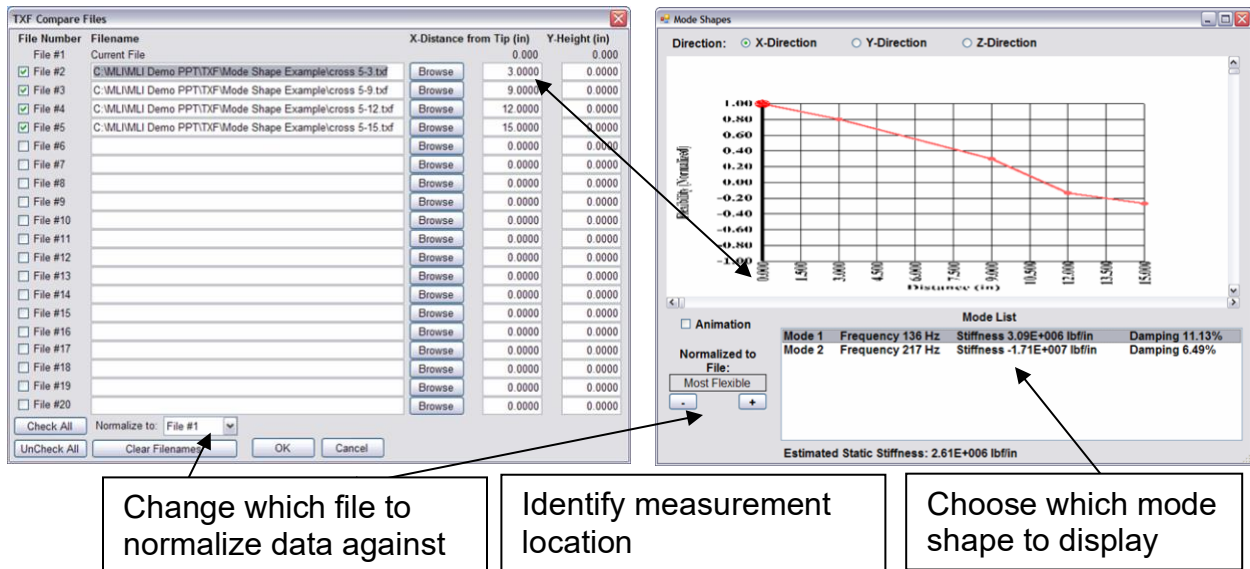
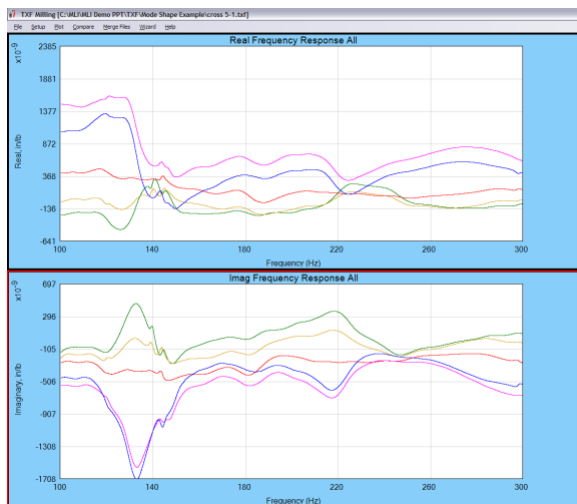

Figure 54: 3D Mode Shapes
Figure 55: Compare – Real/Imaginary – All, showing 5 measurements for Mode shape generation
The example shown in Figure 54 shows a 2D shaft mode where a set of measurements was made along a tool at distances 3", 9", 12", and 15" from the tool tip. The master file should be the direct measurement at the tool tip. The impact was made in the X direction. As seen Figure 55 in there are two dominant frequencies and therefore two mode shapes generated and displayed in Figure 54.
- Choose Compare – Real/Imaginary – All to view all the measurement files in one plot, as show in Figure 55.
- Choose Compare – 3D mode shapes to see the mode shapes as show in Figure 54.